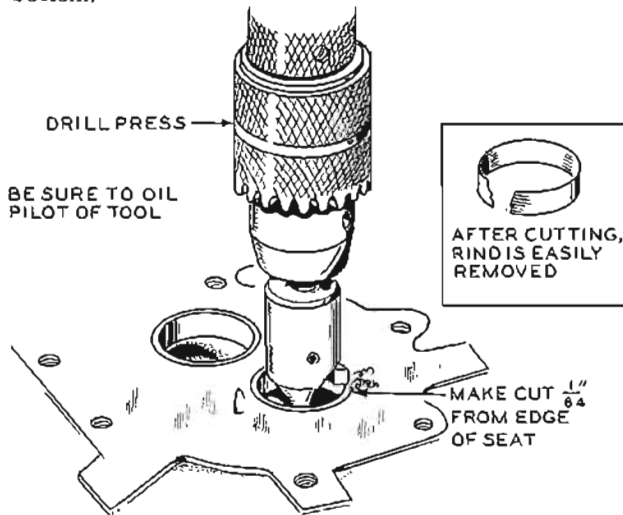

Figure A-28. Cutting Out Valve Seat with Onan Tool (420B272)
(2) Valve Guides. Check valve-guide-to-valve clearance, (para 17). If the proper clearances can't be obtained by replacing the valves, replace the guides. Drive the old guides into the valve chambers. Drive new guides in until they protrude $11/32''$ from the rocker box side of the head. Ream the new guides to the proper diameter (para 17).
(3) Valve Seats. If the valve seats are pitted, refinish them. Using conventional seat grinding equipment, reface each seat to a 45° angle and a seat width of $3/64$ to $1/16''$. You should be able to reface each seat several times before it becomes necessary to replace it. If, however, the valve seats are loose or cannot be refaced, replace them. Use ONAN tool #420B272 in a drill press (fig. A-28) to remove each valve seat. Adjust the tool to cut $1/64''$ from the edge of the seat. Oil the pilot to keep it from seizing in the valve guide. Cut each seat down to a narrow rind on edges and bottom and break it out with a sharp tool. Be careful not to cut into the counterbore bottom.